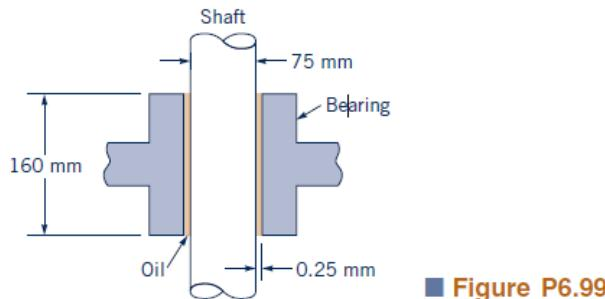

Figure P6.99
6.99. A vertical shaft passes through a bearing and is lubricated with an oil having a viscosity of 0.2 Ns/m^2 as shown in Fig. P6.99. Assume that the flow characteristics in the gap between the shaft and bearing are the same as those for laminar flow between infinite parallel plates with zero pressure gradient in the direction of flow. Estimate the torque required to overcome viscous resistance when the shaft is turning at 80 rev/min.